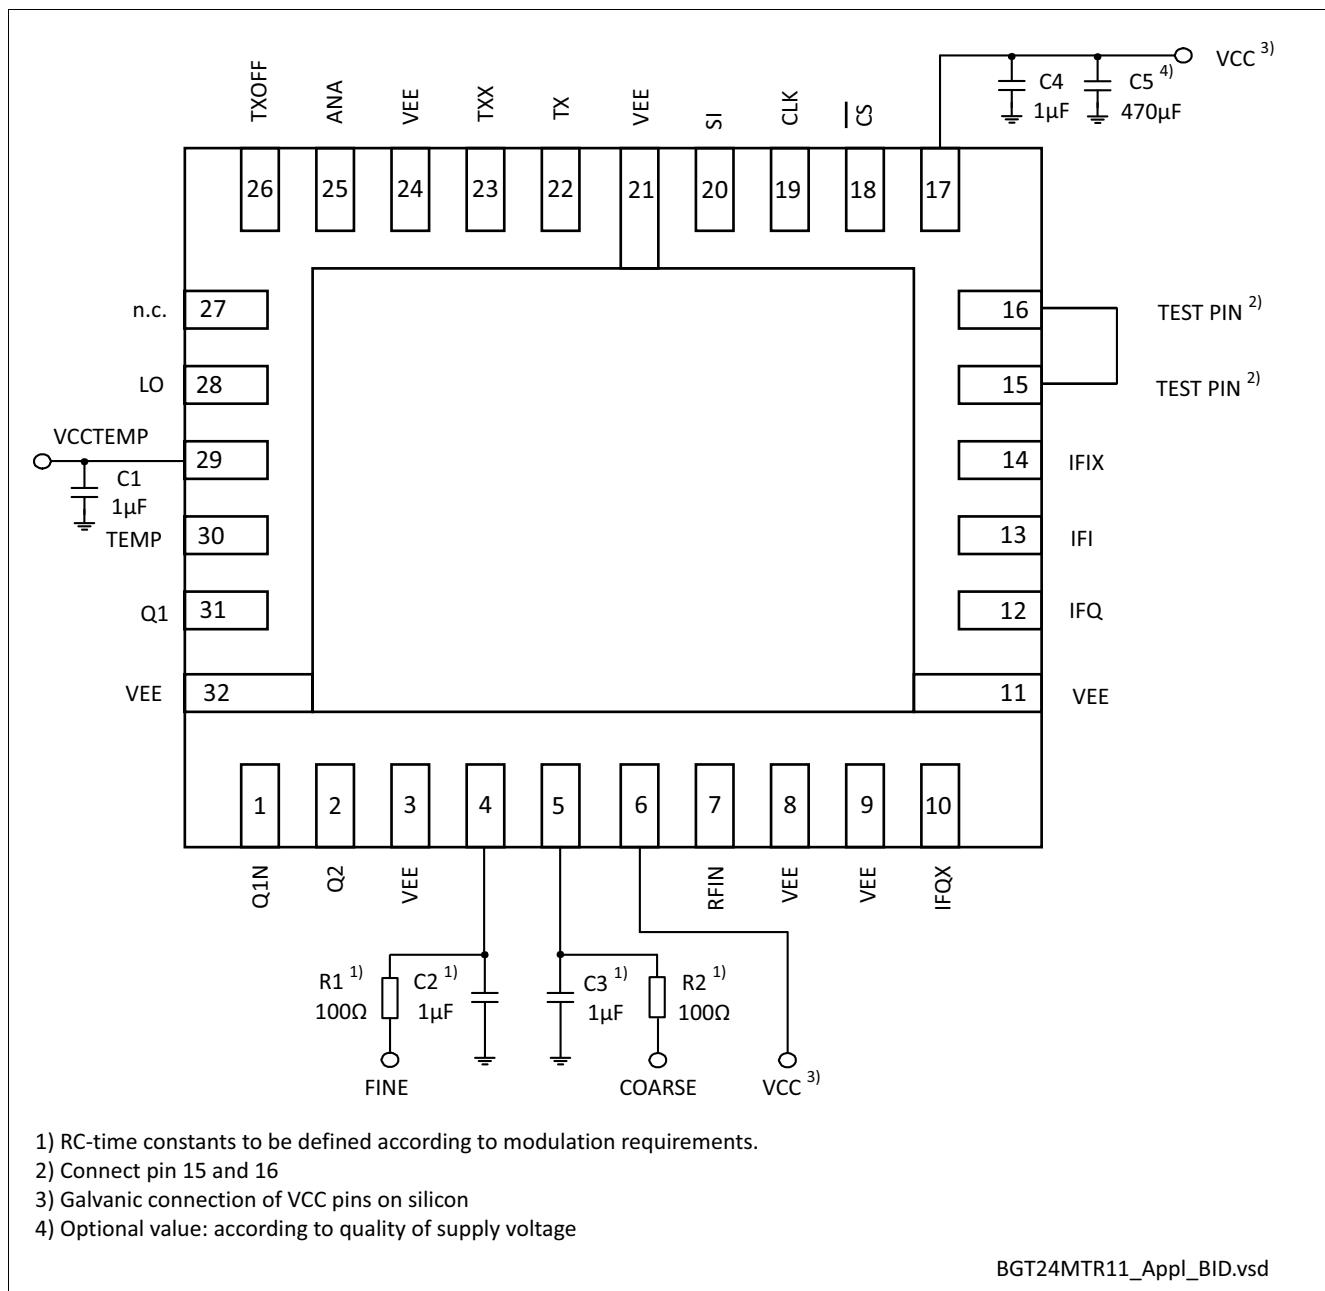

Figure 2 Application Circuit with Chip Outline (Top View)
1) Performance based on Application Circuit Figure 2 on Page 15, Cross Section of Application Board, Compensation Structures and Application Board Layout Figure 4 on Page 20ff and Footprint Figure 8 on Page 23